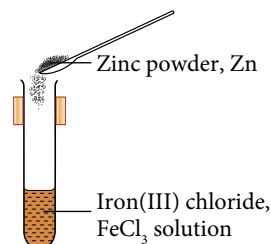

Figure 1.6
B. Conversion of iron(III) ion, Fe^{3+} to iron(II) ion, Fe^{2+}
- Pour 2 cm^3 of 0.5 mol dm^{-3} of iron(III) chloride, FeCl_3 solution into a boiling tube as shown in Figure 1.6.
- Add sodium hydroxide, NaOH solution into the filtrate to confirm the presence of iron(II) ion, Fe^{2+} .